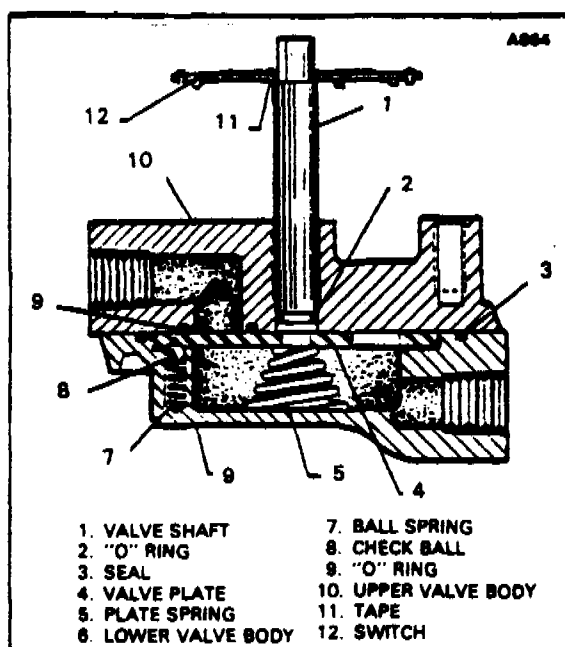

FIGURE 8-12. FIVE POSITION FUEL VALVE
8-15. Servicing Five Position Fuel Valve (Hoof). (PA-24-250 and PA-24-260) Normally the five position valve need only be serviced when there are indications of binding or leakage around the valve shaft (1, Figure 8-12), at the mating surface of the upper valve body (10) and lower valve body (6) or if reason to believe that there is leakage through the valve when in an off position. Replacement of "O" rings will usually correct this condition.
b. Check the shaft hole of the valve body (10) where the "O" ring (2) makes contacts for roughness that might damage the "O" ring. Polish the hole surface to remove any roughness.
- d. If fuel selector switches are installed, connect wiring and carefully slide the main switch (12, Fig. 8-12 or 8-13) on the valve shaft (1). Should the main switch fit loose on the valve shaft, shim the flat of the switch hole with 1/4 x 7/16 pressure sensitive adhesive tape (11), Spec. PPP-T-60B, Type III, Class I.